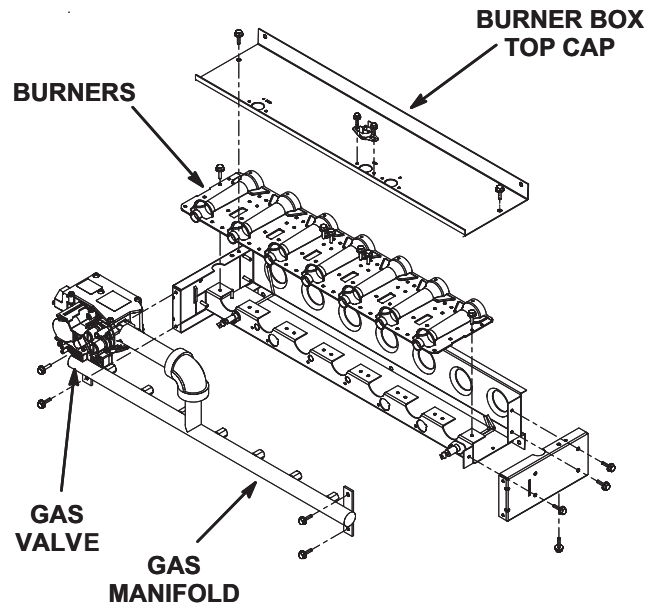

FIGURE 6
- 3 - Remove and retain screws securing burner box top cap. See figures 6 and 7.
- 4 - Remove and retain two screws securing burners to burner support and lift the individual burners or the entire burner assembly from the orifices. See figure 6 or 7. Clean as necessary.